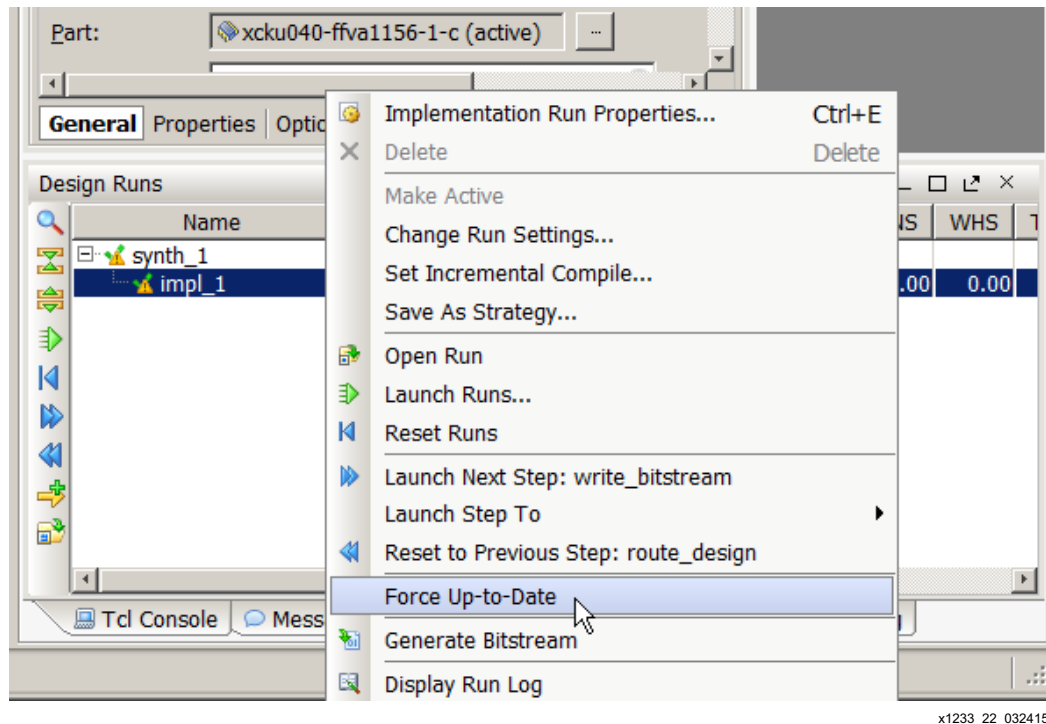

Figure 22: Force Up-to-Date
10. Force synthesis and implementation up-to-date because the constraints changed above only impact bitstream generation (Figure 22). Select **Design Runs** in the Results Window Area. If the synthesis run has a status indicating it is out of date, right-click the synthesis run and select **Force Up-to-Date**. If only the implementation status shows that it is out of date, right-click the implementation run and select **Force Up-to-Date**.